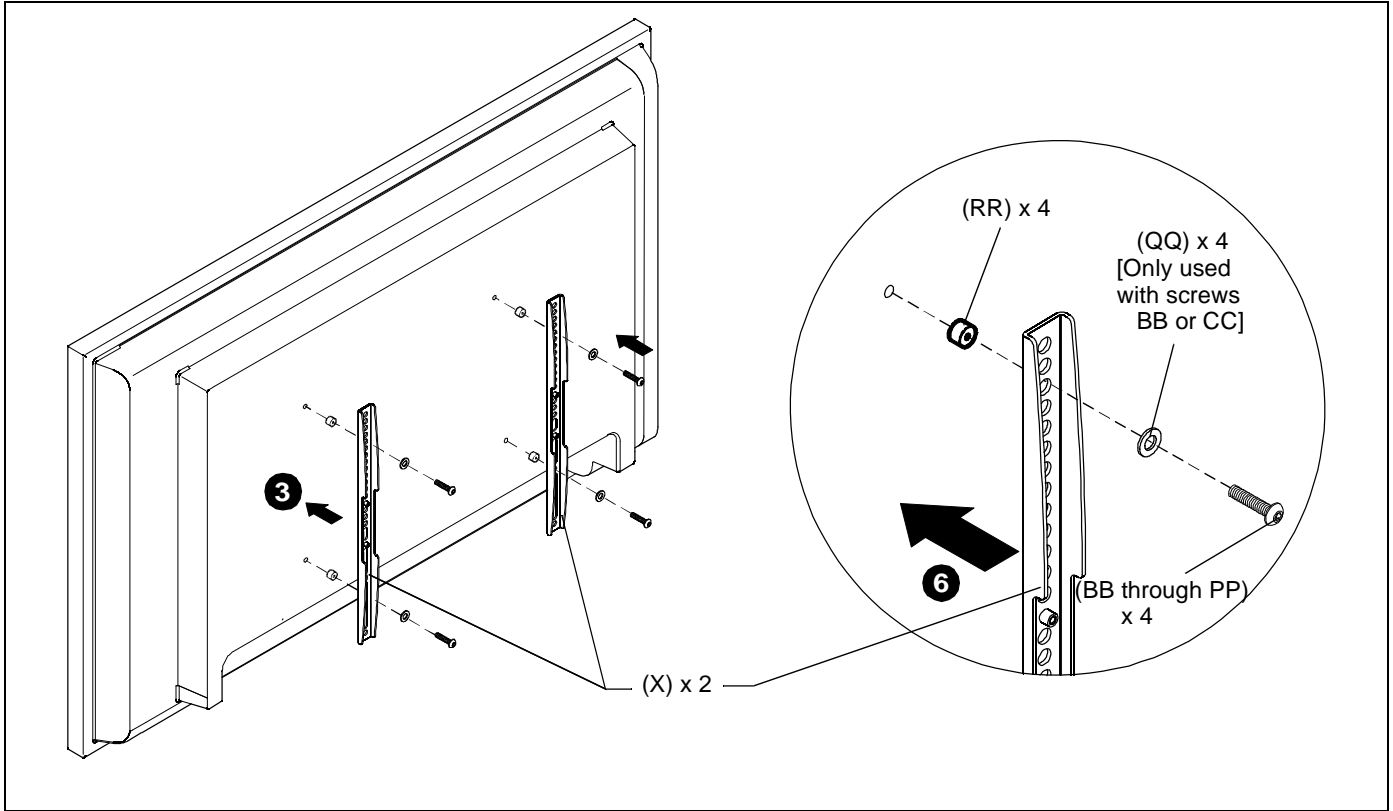

Figure 11
4. Adjust vertical mounting bracket (X) position until mark made in Step 1 aligns with center mark in vertical mounting bracket (X).
5. Secure left side vertical mounting bracket (X) to display using two Phillips pan head screws (BB through PP). (See Figure 11)
**NOTE:** Also use #10 flat washers (QQ) if using screws BB or CC.
**NOTE:** If the display has a recessed mounting surface, protrusions or a power box, a spacer (RR) and longer mounting hardware must be placed between the display and vertical mounting brackets (X). (See Figure 11)